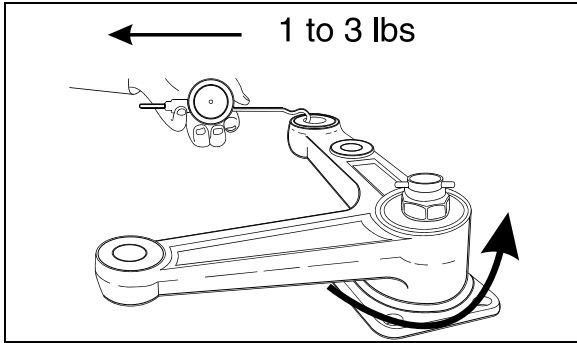

FIGURE 19: BELL CRANK 16045
11. Unscrew nut until bell crank or idler arm starts to turn with the application of 1 to 3 lbs force load as shown on figure 19.